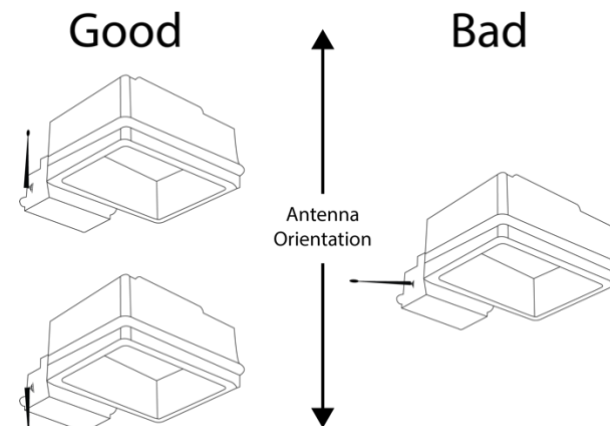

Figure 1 - Proper External Antenna Installation
- When installing the DIM10-087-06 into an enclosure, consideration of the external antenna position and interference is required in order to provide the most optimum wireless signal strength. Prior to permanently mounting it, make sure the antenna points directly upward or downward and is free of any metal objects within 12 in. of the antenna (Figure 1).